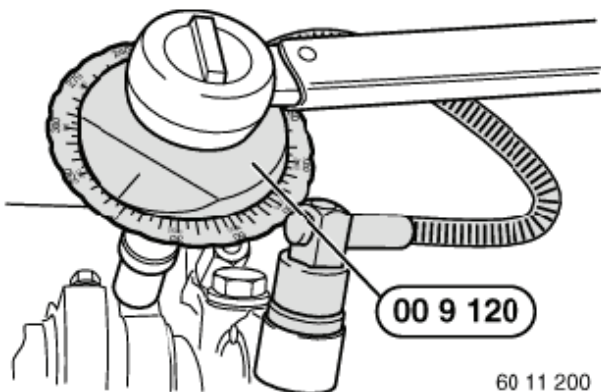

Figure 5-62
13. Lightly oil NEW bolts and install to an initial torque of 5 N·m (44 in.-lb). (**Figure 5-62**). Torque-turn tighten to final specification of 20 N·m (177 in.-lb) plus 70°. **NOTICE: NEVER install used connecting rod cap bolts. ALWAYS install new bolts when installing connecting rod cap.**